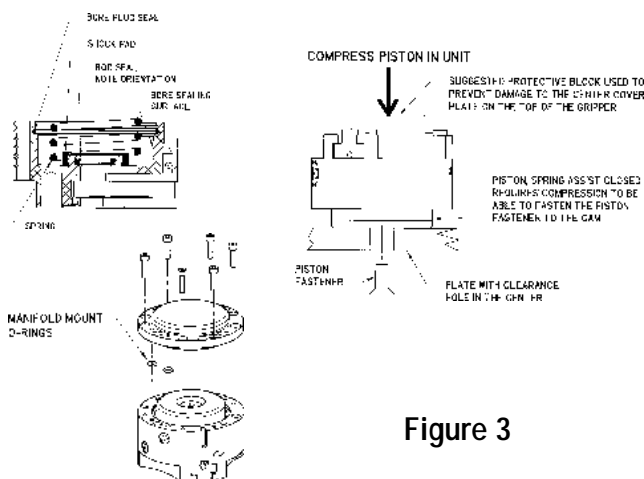

Figure 3
4. Place piston with bottom down on a flat, clean surface. Place spring(s) into piston cavity(ies). Carefully set gripper on top of spring(s). It may be necessary to compress the spring(s) in order to install the piston fastener (Figure 3). Torque piston fastener per the table below.
5. Lubricate the bore plug seal groove and install the seal in the groove closest to the gripper bore (Figure 3).